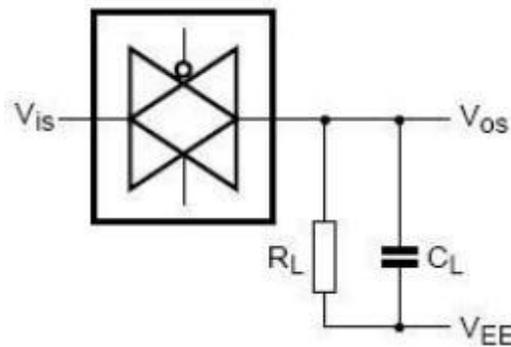

Figure 6. Square wave distortion degree of cut-off frequency and conduction frequency test pattern
- [3]  $R_L=1k\Omega$ ;  $C_L=5pF$ , channel off,  $20\log V_{os}/V_{is}=-50dB$ , see Figure 6.
- [4]  $R_L=1k\Omega$ ;  $C_L=5pF$ , channel on,  $20\log V_{os}/V_{is}=-3dB$ , see Figure 6.